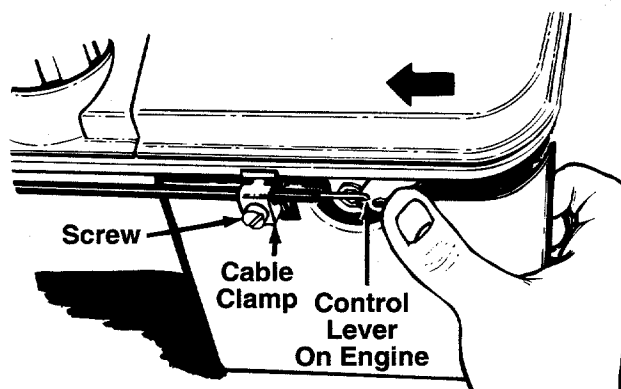

FIGURE 15A.—Briggs & Stratton Quantum Engines
1. Remove the screw shown in figure 15A. Remove the cable clamp from the cable.